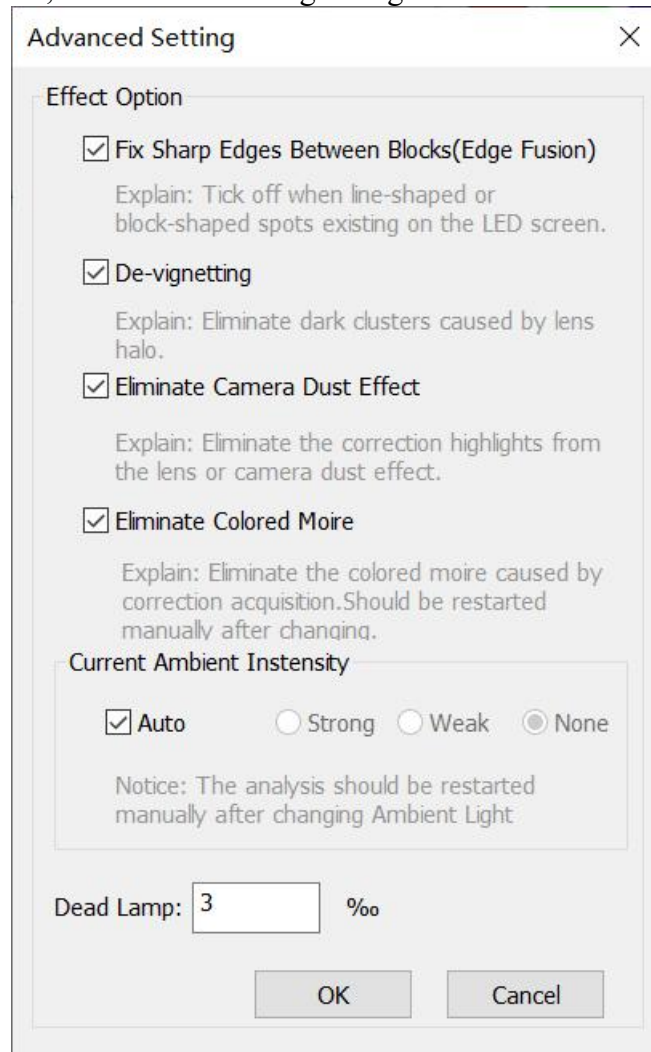

Fig. 6-1 Effect Setting-1
a.Canon camera,the advanced setting dialog cabinet is as shown in Fig.6-1.